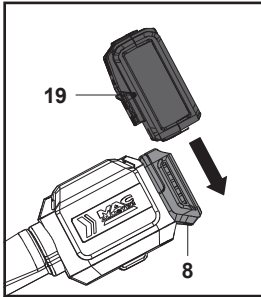

Fig. 7
1. Align the battery pack (19) with the sliding slots of the battery docking port (8) and slide the battery pack in to attach it. Ensure it clicks in place (Fig. 7).